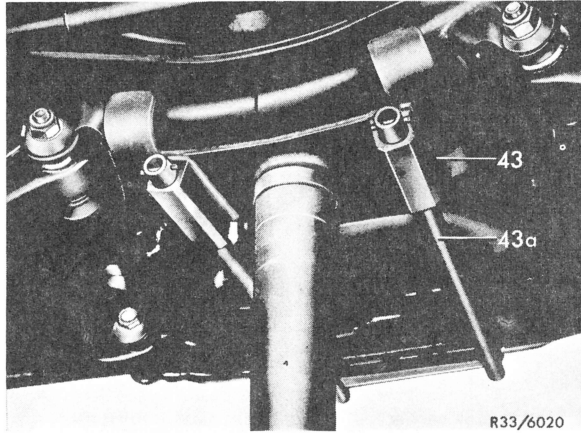

Fig. 7
10 Support front axle carrier with pit lift and cradle (43) together with supplementary member (43a) (Fig. 7).